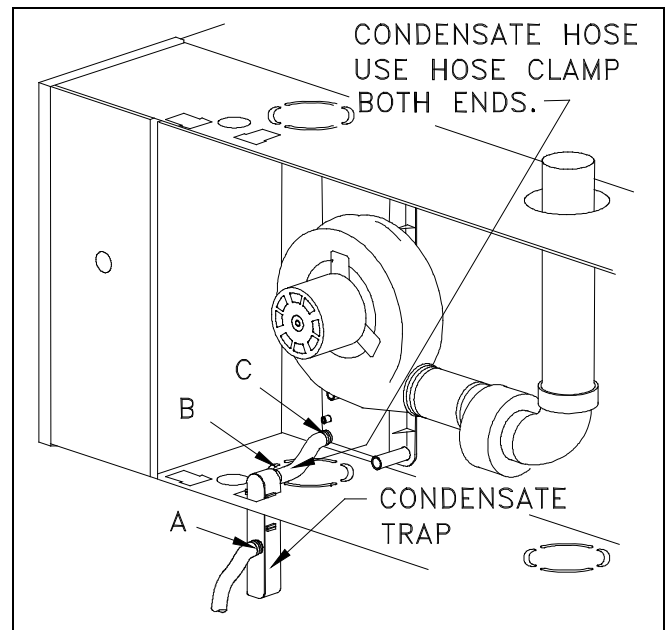

Figure 22. Horizontal Air-Left Drain-Trap Installation.
1. See Figure 22 for drain trap location for your installation. In horizontal positions, condensate drain trap must be mounted through bottom side of furnace.